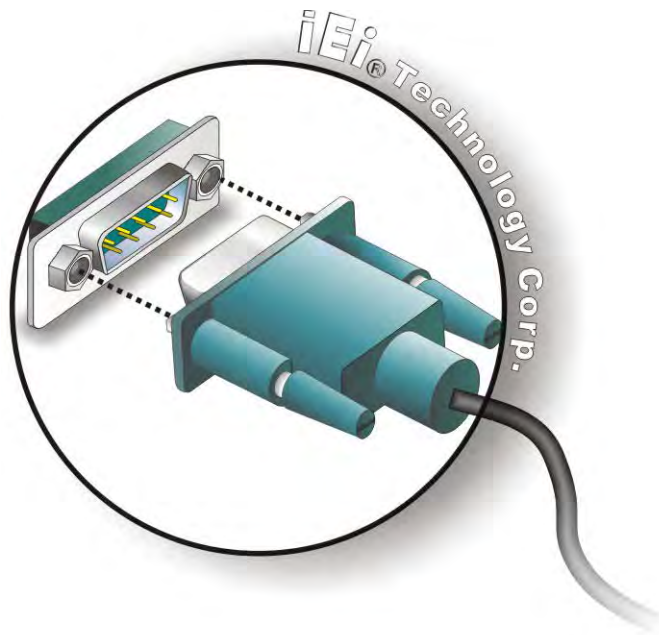

Figure 4-18: Serial Device Connector
Step 2: **Insert the serial connector.** Insert the DB-9 connector of a serial device into the DB-9 connector on the external peripheral interface. See **Figure 4-18**.